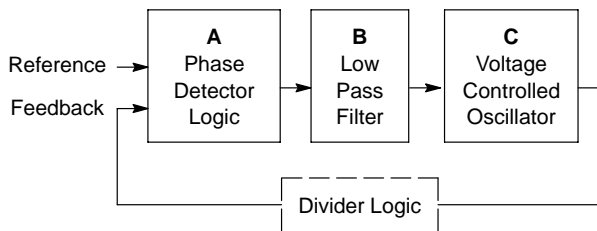

Figure 1. General Basic Phase Lock Loop Model
A general phase lock loop may be modeled as a reference signal and a feedback signal driving a phase detector logic network (A). Outputs from the phase detector are processed through a low pass filter network (B) to generate a control voltage. The control voltage drives a voltage controlled oscillator (C). A feedback signal derived from the voltage controlled oscillator output is fed to the phase detector as shown in Figure 1. A divider logic section is often added to the feedback signal path.